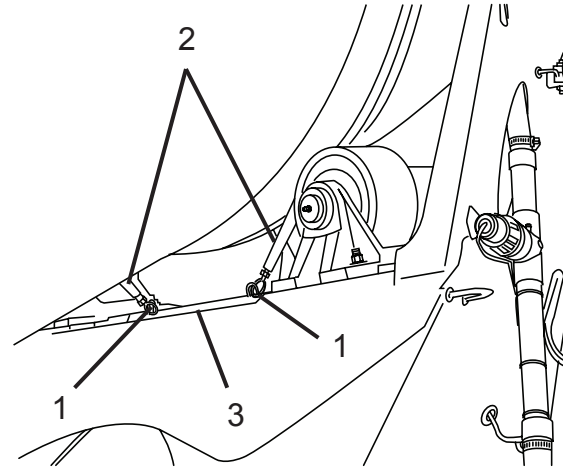

Figure 7
1. Loosen the turnbuckle jam nuts (Figure 7, Item 1).
2. Rotate the turnbuckles (Figure 7, Item 2) to retract the wedges from the drum roller track and rollers.
3. Remove the dual turnbuckle wedge assembly (Figure 7, Item 3) and any blocking from the rear pedestal.